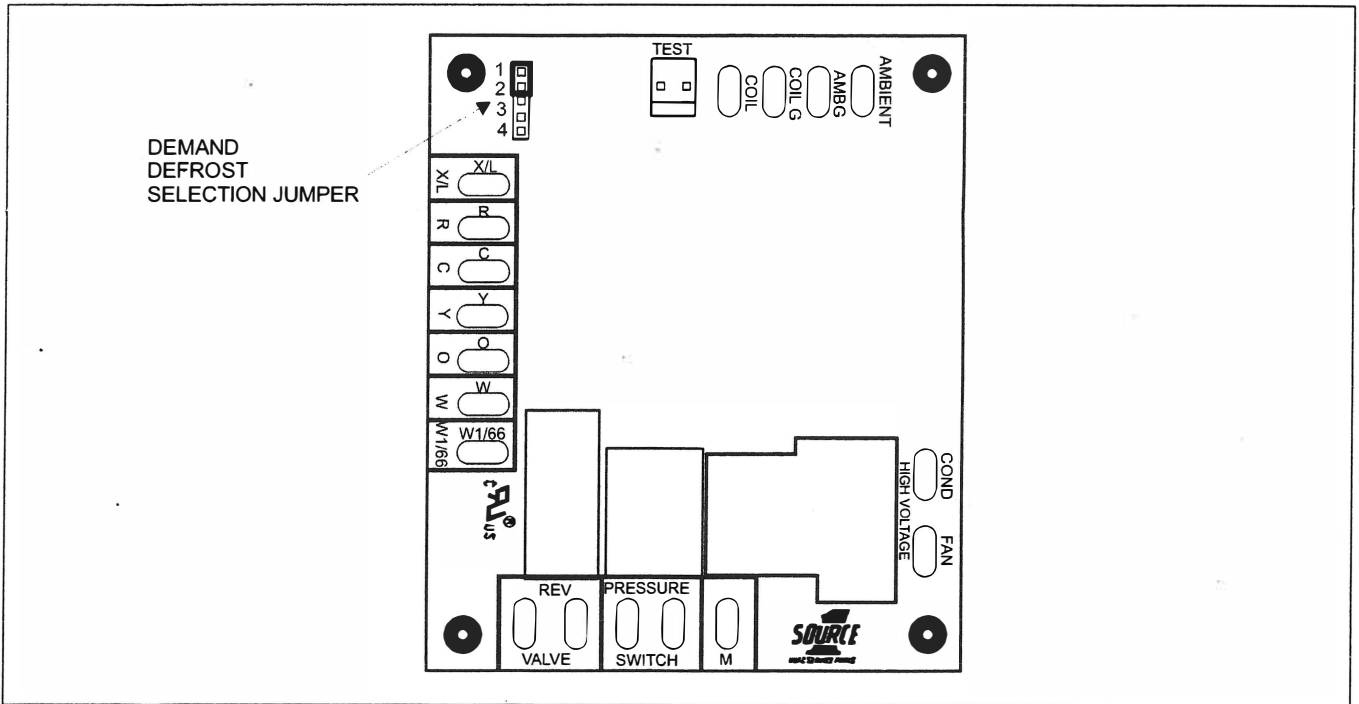

FIGURE 1: Demand Defrost "Curve" Selection Jumper
16. Set the proper demand defrost "curve" using the shunt jumper in the upper left corner of the control. See Figure 1. The position of the jumper must correspond with the control being replaced. Table 2 shows the proper jumper pin positions for the various controls that might be replaced.